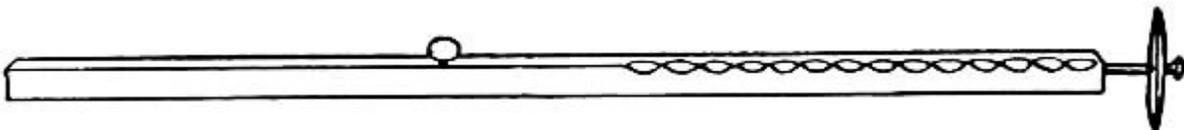

FIG. 392.—The Magic Pin-wheel.
**The Magic Pin-wheel** represented by Fig. 392 can be made with a few minutes' work, and is something entirely new in the line of magic toys. There are probably few persons who will understand this simple yet mysterious toy when they see it properly operated, until the secret is disclosed to them. As you will see by looking at the drawing, the pin-wheel consists of nothing more than a stick notched along one edge, and a thin piece of wood about an inch in length fastened through its centre to the end of the stick by means of a pin. In cutting the notches it is important to make them of the same length and depth. Locate the exact centre of the chip of wood before pivoting it to the end of the stick, and with your knife make a small hole for the pin to run through at this point. Be careful to drive the pin in straight.